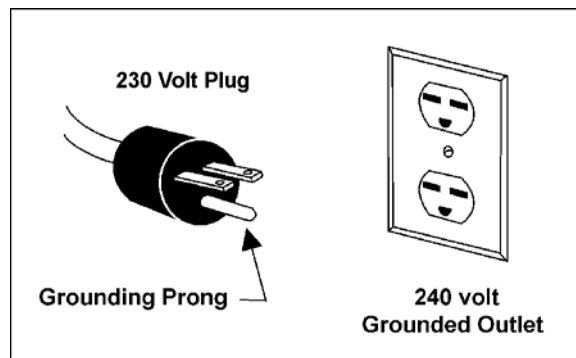

Figure 8
3. The 115V attachment plug supplied with the band saw must be replaced with a UL listed plug suitable for 230 volt operation, similar to the one shown in Figure 8. Contact your local authorized WMH Tool Group service center or qualified electrician for proper procedures to install the plug. The band saw must comply with all local and national codes after the 230 volt plug is installed.
5. The band saw with a 230 volt plug should only be connected to an outlet having the same configuration (Figure 8). No adapter is available or should be used with the 230 volt plug.